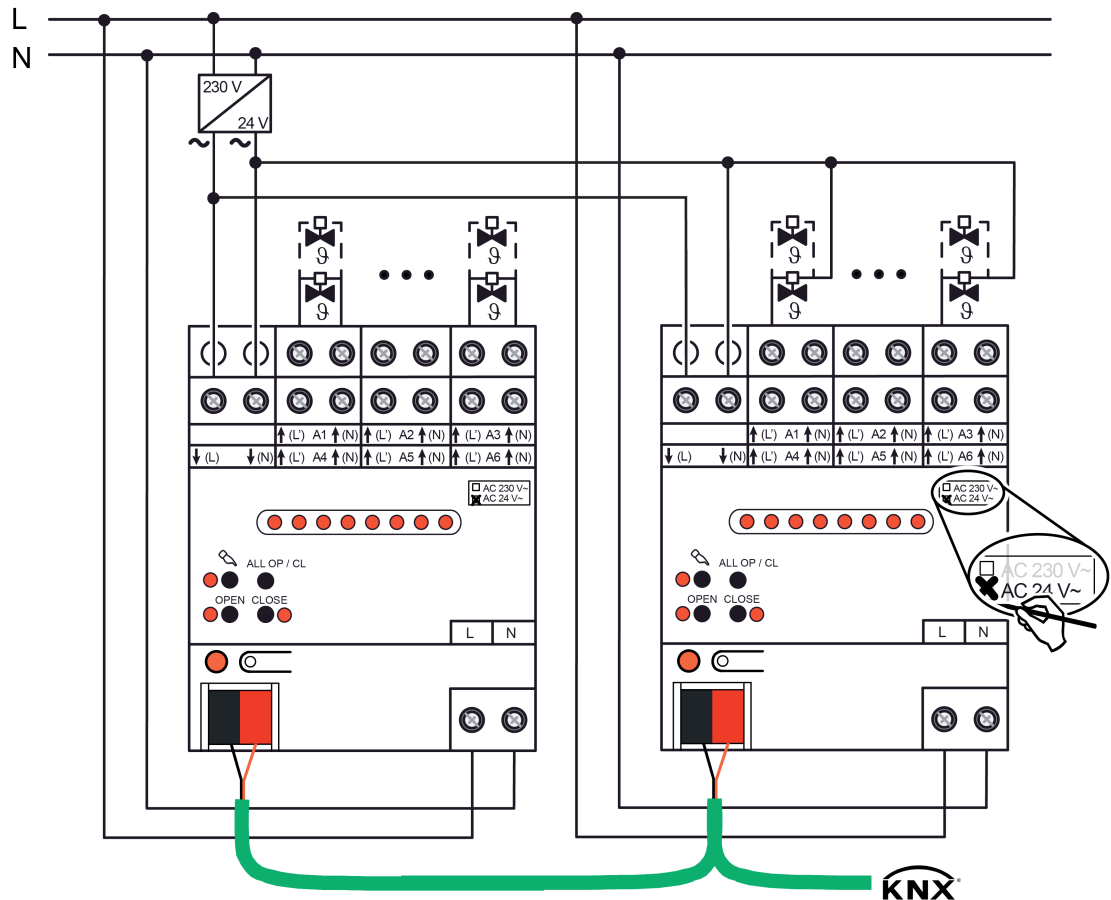

Figure 3: Connection for actuators AC 24 V
- Connect the AC 24 V valve drives according to the connection diagram (Figure 3). It is possible to connect the actuators individually and directly with the terminals of the outputs of the heating actuator (left-hand connection example) or, alternatively, using a shared conductor (right-hand connection example).
- Connect the supply for the actuators (AC 24 V) to the terminals ↓(L) and ↓(N) (1). In so doing, use a low voltage AC 24 V from a suitable power supply (transformer, mains power supply).
- Connect mains voltage AC 230 V to the terminals **L N** (5).